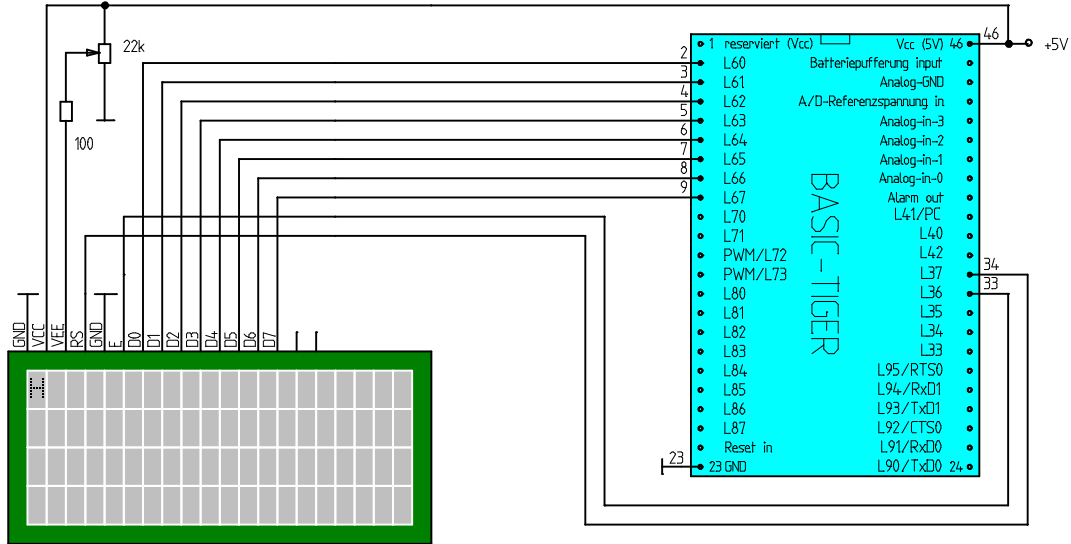

Fig. 3 Plug-and-Play-Lab Standard display wiring
- Although the display has the same kind of contacting as the standard display (16 pins in a row, distance 0.1“) the connections do not fit exactly. The display has to be turned by 180° and also displaced in order to guarantee the connection order (see figures 3 and 4)